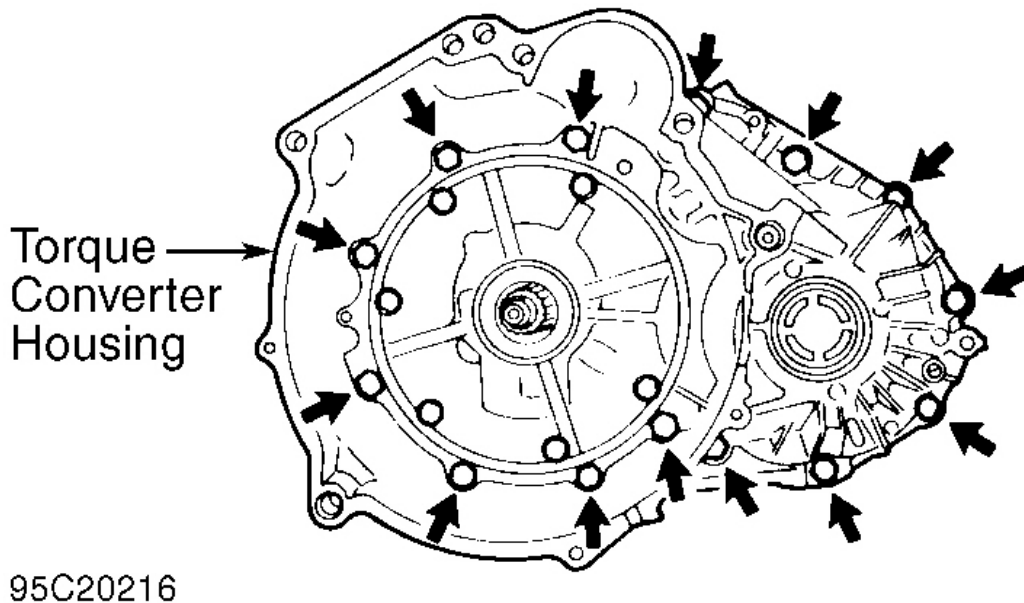

Fig. 16: Torque Converter Housing Bolts & Torque Converter Housing
7. Remove torque converter bolts and torque converter housing. See **Fig. 16** .